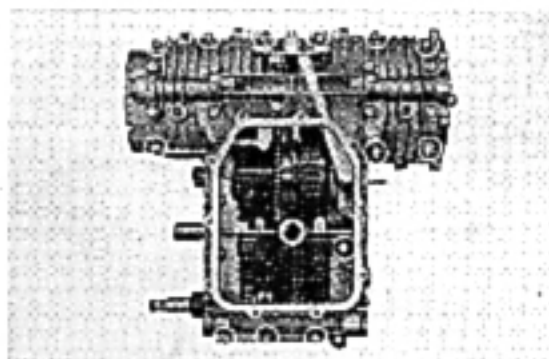

Fig. 153 6mm mounting bolts
7. Position the upper crankcase on top and install with three each, 6mm and 8mm bolts. (Fig. 153)